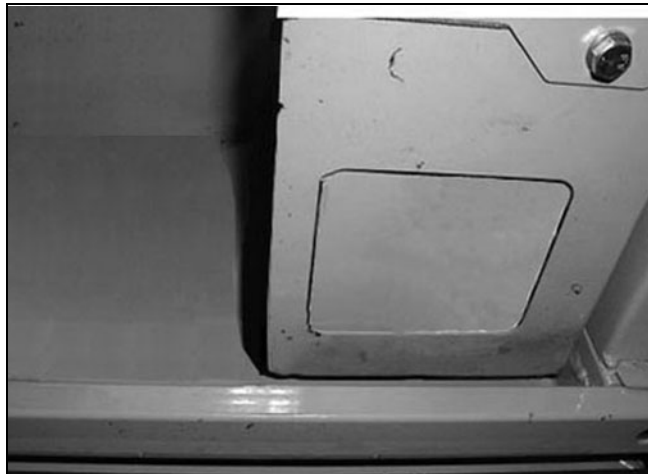

Figure 3-33 Fresh Air
- Fresh air-heater takes in air from outside the cab. See Figure 3-33.